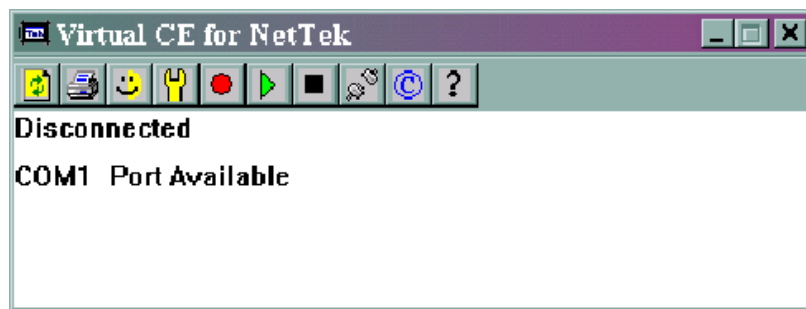

Figure 3-4: Virtual CE for NetTek window
1. Select **Start > Programs > Virtual CE for NetTek > Virtual CE for NetTek**. This displays the Virtual CE for NetTek window shown in Figure 3-4.